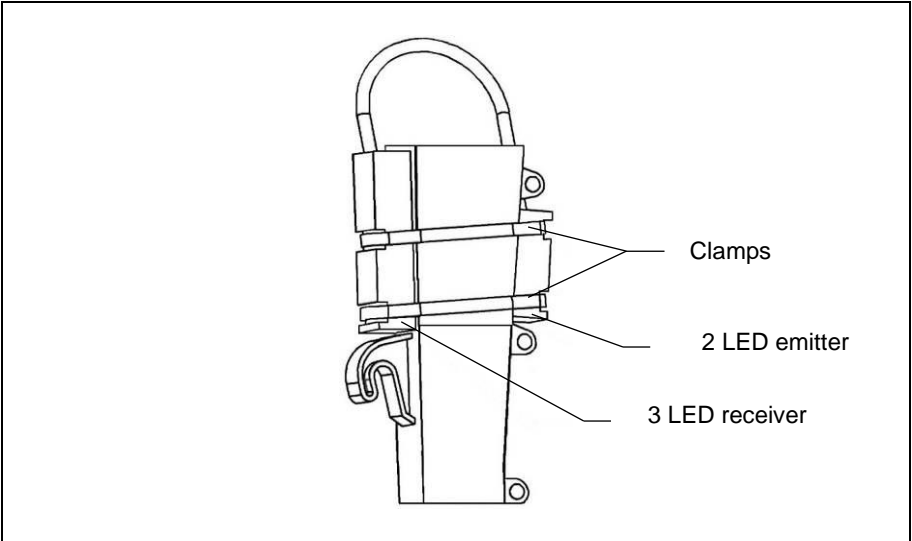

Figure 4. Example of installation on the pipe
- If the seeding has elements of sowing "high" with pipes that carry the seeds fall to the ground, are the ones to install photocell cod. 10FOT-4RXTES (with outside electronics on box) or cod. 10FOT-4RXTIN (with inside electronics) and must be placed at about half the length of the tube (Figure 4).